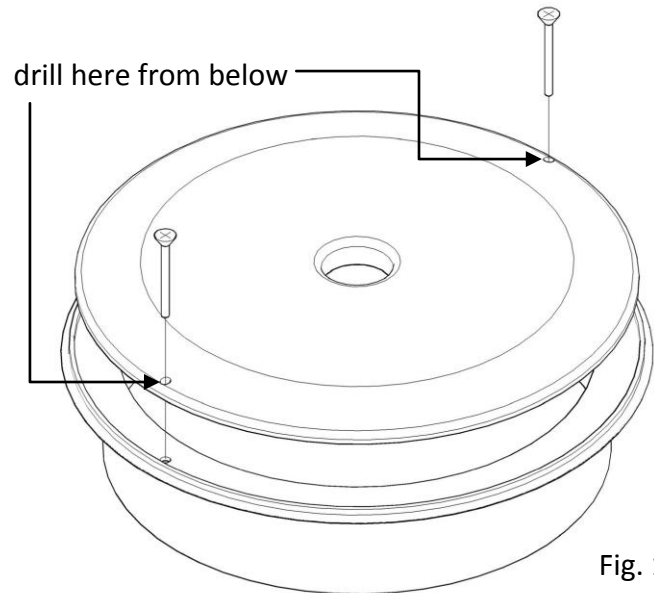

Fig. 1
2. To secure your StoneLid™ with screws, (not provided), first complete drilling\* through the pilot holes, (fig.1) located on the underside of the lid using a 3/16" standard drill bit. Then using a #8 countersink bit gently drill 1/8" deep from the top side using the 3/16" hole as a guide. (DO NOT OVER TIGHTEN SCREWS)